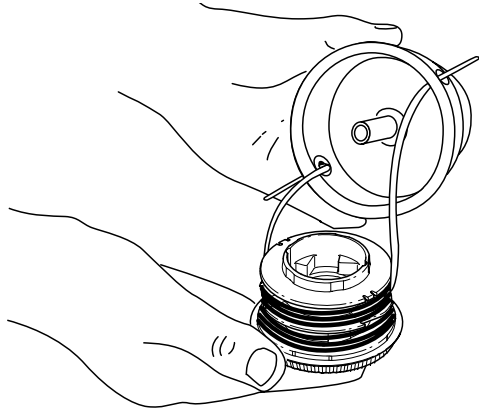

Fig. 20
3. Insert the ends of the prewound inner reel line into the outer spool eyelets (Fig. 20). Push the new inner reel, arrow side up, into the outer spool.